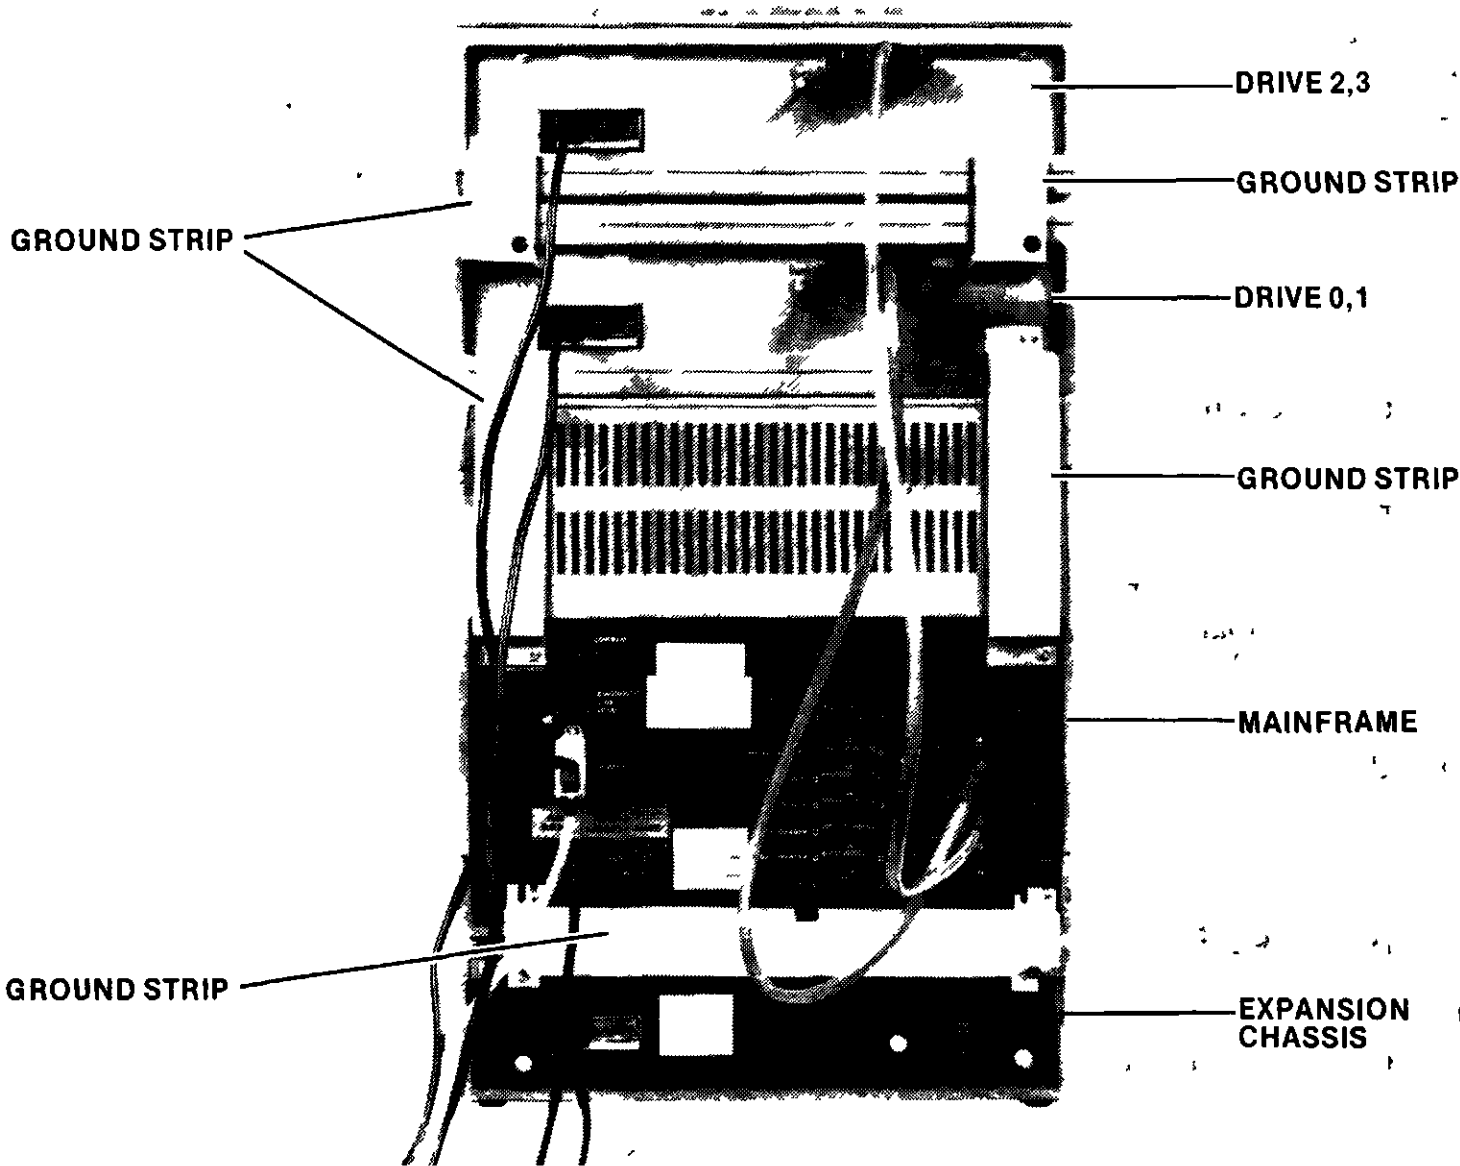

Figure 4-10. Dual Double Density Diskette Drive Installation Details
2. Install the two long aluminum ground strips between rear panels of first dual drive and mainframe. (See figure 4-10.)